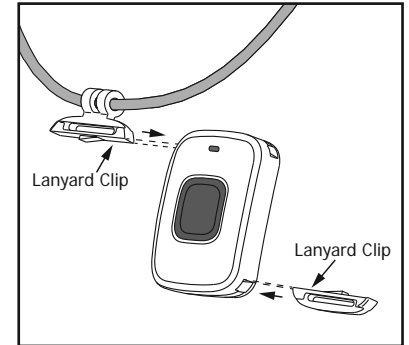

Figure 2: Lanyard mounting
1. Slide the Pendant mount into the slots until fully seated. See Figure 2.